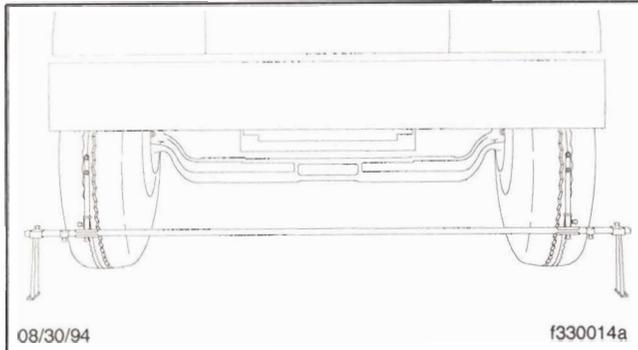
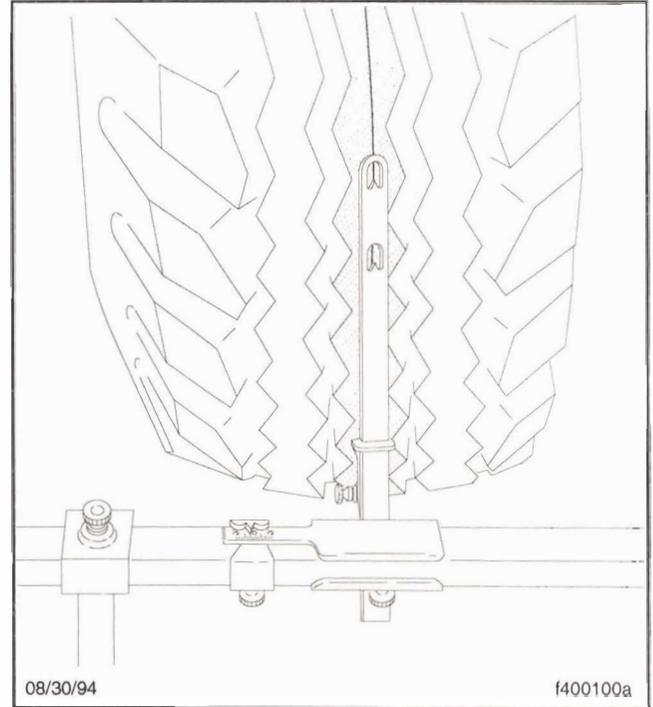

Fig. 5, Trammel Bar Positioning
Fig. 6, Calculating Wheel Toe-In
7. Place the trammel bar at the front of the tires as shown in **Fig. 5**. Adjust the scale end so that the pointers line up with the scribe lines. See **Fig. 6**.